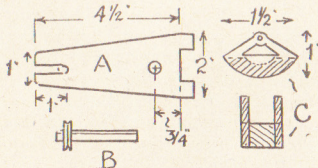

Fig. 3—Wheel support parts
For the pair of standards, cut two at (A) in Fig. 3, from $\frac{3}{8}$ in. wood to the shape given. The slot at the top is just $\frac{3}{8}$ in. wide. To the length of the standards, add $\frac{3}{8}$ in. for the two tenons at the bottom. These will be cut to the size, and spaced apart, to suit the mortises in the base. On the centre, and at $\frac{1}{2}$ in. from the bottom, bore a $\frac{3}{8}$ in. hole through both for the axle of the second pulley already mentioned. Now glue the standards in the base.
The boats (C) in Fig. 3, consist of side pieces of $\frac{3}{8}$ in. wood, cut to the complete shape, with a $\frac{1}{2}$ in. thick piece of deal between, cut to the shape shown by shaded lines. The holes at the top are drilled to suit the wires mentioned.